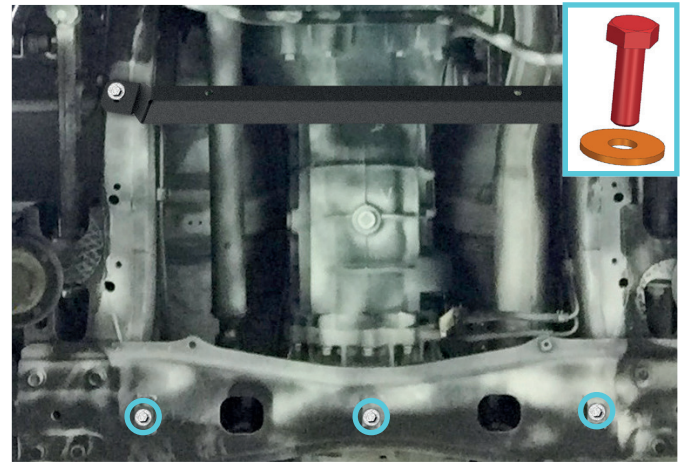

Fig. 4
4. Loosely insert supplied bolts M8x1.25x25 with washers M8 (items A,B) as shown in fig. 4. ***Do not tighten yet.**